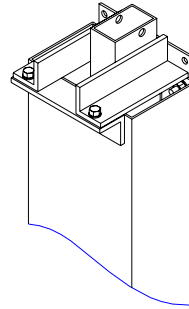

Fig. 13
- B. One end of each cable should already be attached to each carriage. Feed the other end of the cable up behind the mainside hose and through the top of the leg as shown Figure 13.